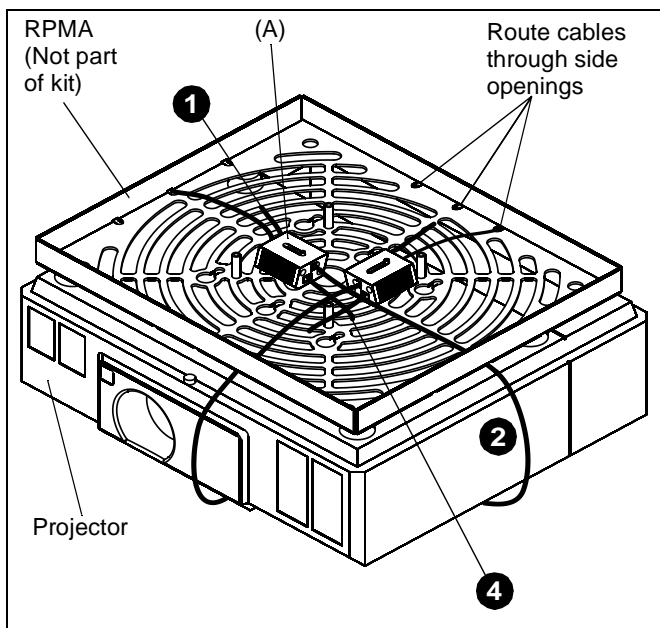

Figure 1
1. Feed small length of cable into the cable lock (A), being sure to push the release button in direction of arrow printed on lock. (See Figure 1)
4. Pass wire tail from Step 2 back through the remaining locking channel (See Figure 1).